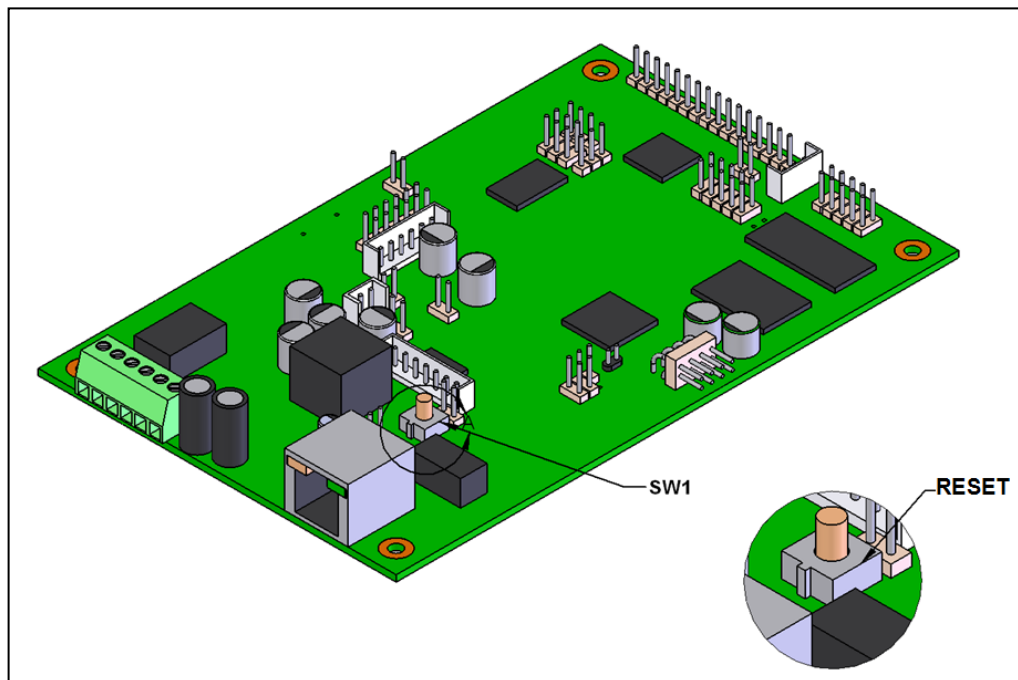

*Figure 10 - Network Activity*
- The square, green **Link** light above the Ethernet port indicates that the network connection has been established (see Figure 10). The Link light changes color to confirm the auto-negotiated baud rate: